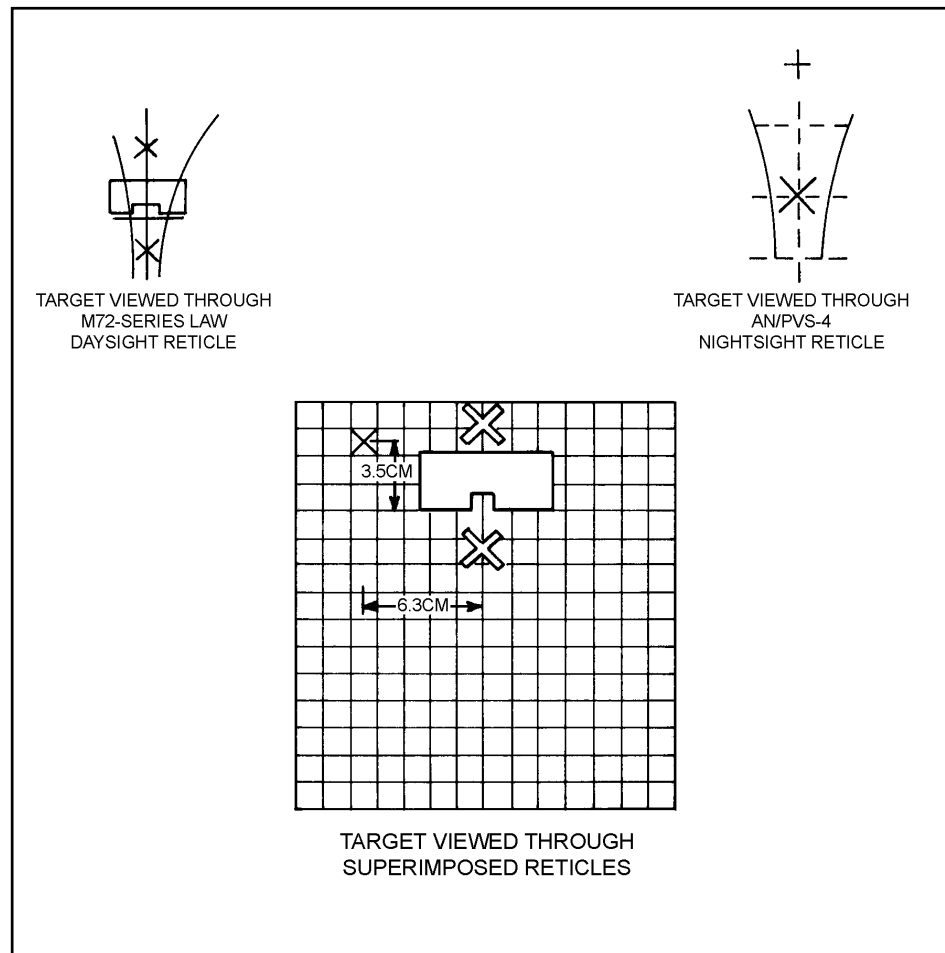

Figure 2-14. M72A1 alignment target for the AN/PVS-4.
(5) Align the nightsight's reticle pattern to the LAW sights only once. After that, you can move the nightsight from LAW to LAW without having to realign it each time (Figure 2-14). To align the sight reticle pattern to the LAW sights, place a target at 25 meters. Install the mounting bracket and sight, and select a stable firing position for the LAW. Turn both the TUBE BRIGHTNESS and RETICLE BRIGHTNESS knobs ON. Align the 200-meter range mark on the daysight with the aiming point on the target. Without moving the LAW, adjust the nightsight reticle so that its 200-meter range mark coincides with an aiming point 6.3 centimeters left and 3.5 centimeters above the target aiming point.